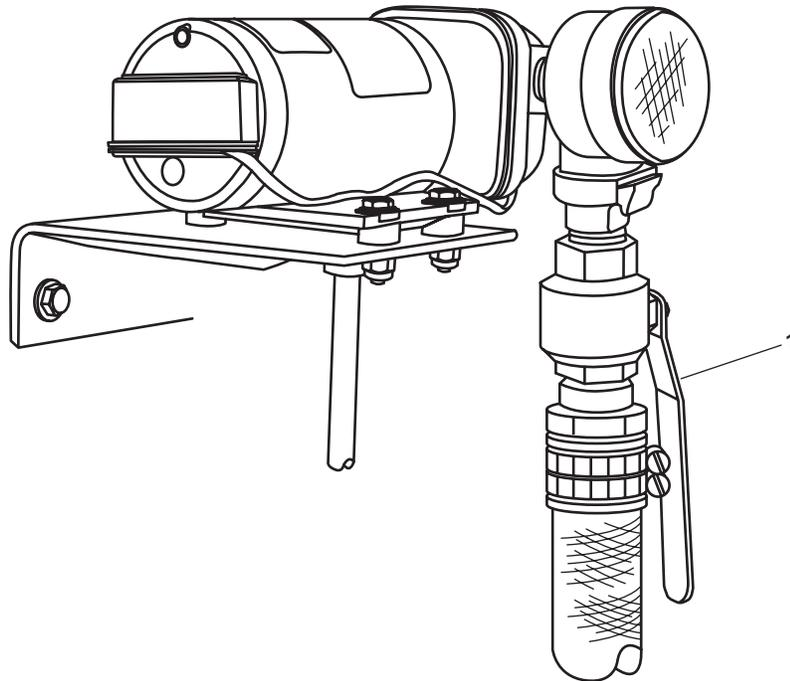

Figure 14. Fresh Water Flush Pump Outlet Valve
- d. OPEN the FRESH WATER FLUSH PUMP OUTLET valve (figure 14, item 1).